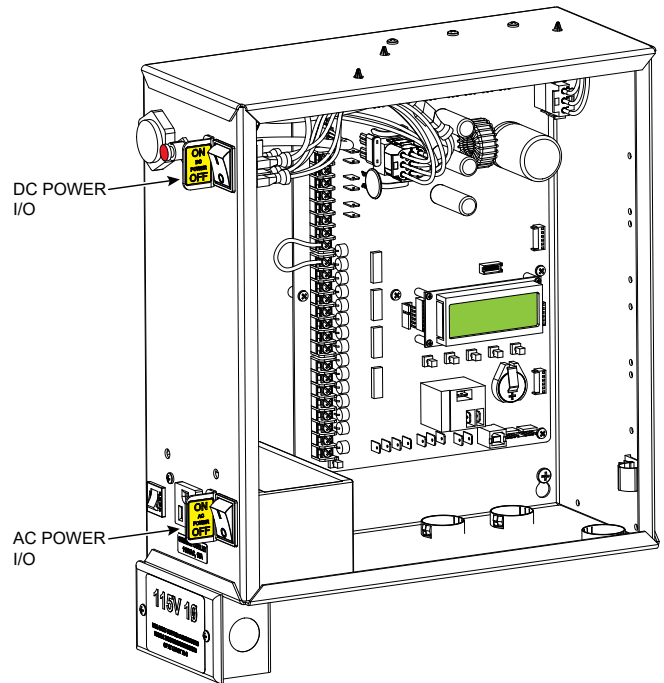

Figure 3. Turn AC and DC Power On
2. Turn OFF power to the Control Box (both AC & DC switches). See Figure 3.
8. Turn ON the Control Box AC & DC power switches (Figure 3), and then set the operator type and other parameters by following "Setting the Operator Type" on page 4.
See Figure 3.